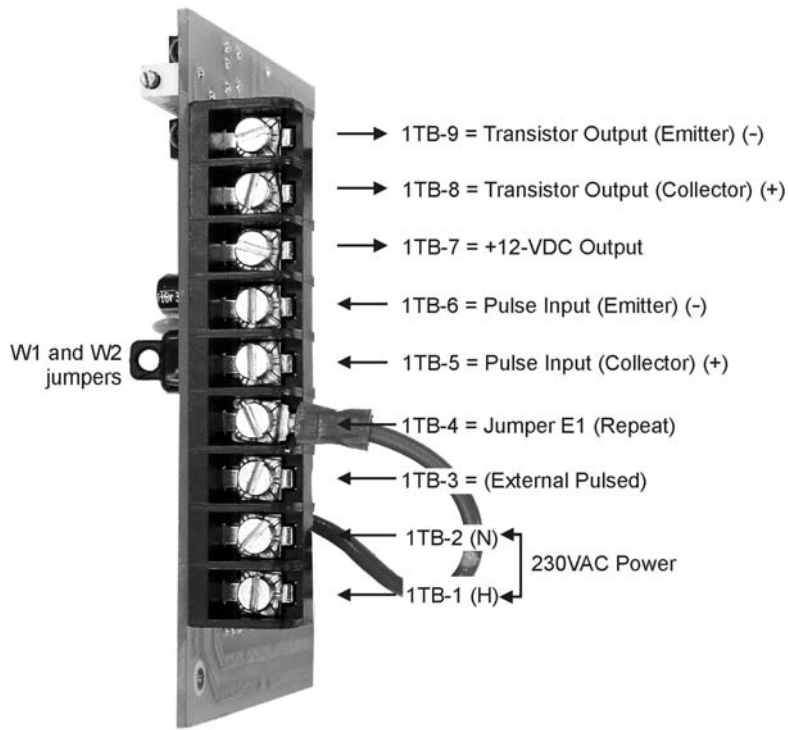

Figure 1—Field wiring of CD20 (230VAC) assembly
Use the following steps to install field wiring to the CD20-230VAC (Figure 1):
3. The on-board jumper E1 selects the source of “start” pulses for the CD20 control logic. For external pulsed mode, connect jumper E1 to 1TB-3. For the repeat mode (time-proportional sampling), connect jumper E1 to 1TB-4, as shown in Figure 1.